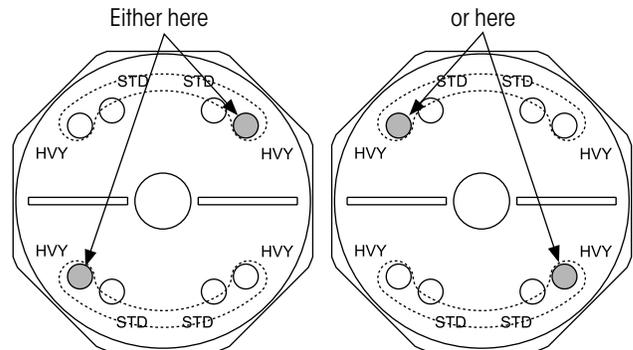

Figure 21: Set screw installation for TF II wide bushing drive plate
- A. **Configure** set screws in the rear drive plate as shown in Figure 21.